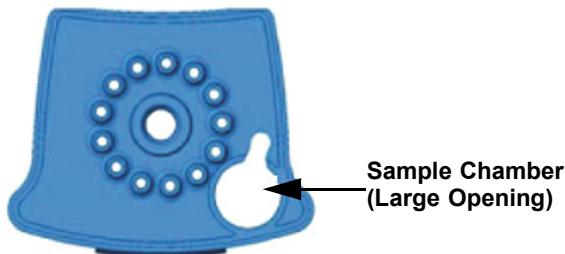

Figure 2. Xpert Xpress Strep A Cartridge (Top View)
8. To transfer the patient specimen to the cartridge, squeeze the bulb of the transfer pipette completely again to empty the contents of the pipette into the large opening (Sample Chamber) in the cartridge shown in Figure 2.
2. Open the cartridge lid. Using a clean 300 µL transfer pipette, transfer 300 µL (one draw) of the NATtrol sample to the sample chamber with large opening in the cartridge (Figure 2).
6. To transfer the patient specimen to the cartridge, squeeze the bulb of the transfer pipette completely again to empty the contents of the pipette into the large opening (Sample Chamber) shown in Figure 2.